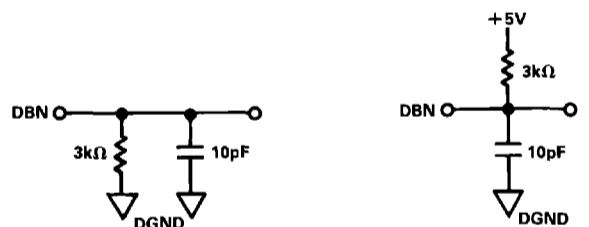

Figure 4. Load Circuits for Output Float Delay (t13)
- t13 is defined as the time required for the data lines to change 0.5V when loaded with the circuits of Figure 4.